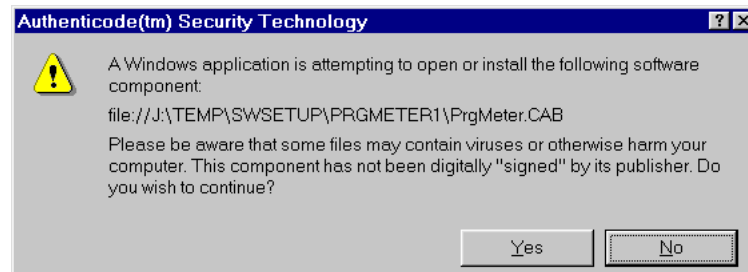

Figure 26. Isn't paranoia a wonderful thing?
5. Again, load PRGMETER.HTM. This time, you'll get a different dialog box, but your control will get loaded. (See Figure 26 for IE3's dialog.)